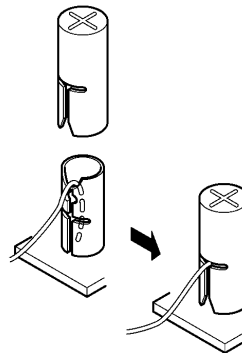

Figure 6-43: Attaching Cables to the ADA-UA Unit
3. Remove the cap on the adapter terminal to expose the metal receptacle. Push the cable in the applicable receptacle, and replace the cap. Line up the slot on the cap with the slot on the metal receptacle to ensure proper contact. Refer to *Figure 6-43: Attaching Cables to the ADA-UA Unit*.